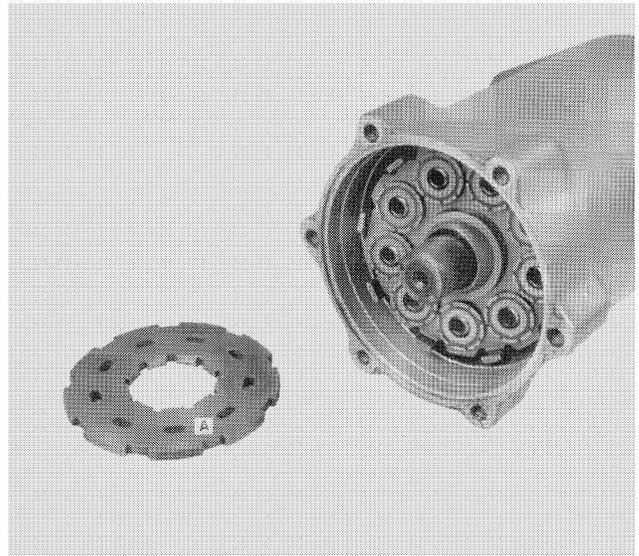

FIGURE 24
7. Remove connector plate, A, Figure 24.
9. Place spring, C, Figure 26, over shaft. Lubricate and assemble pistons in spider as shown in Figure 25. Assemble pivot, B, and spacer, A, Figure 26, and piston assembly into piston block as shown in Figure 24.
10. Lubricate shoes of pistons and lay flat part of connector plate, A, Figure 24, over pistons.